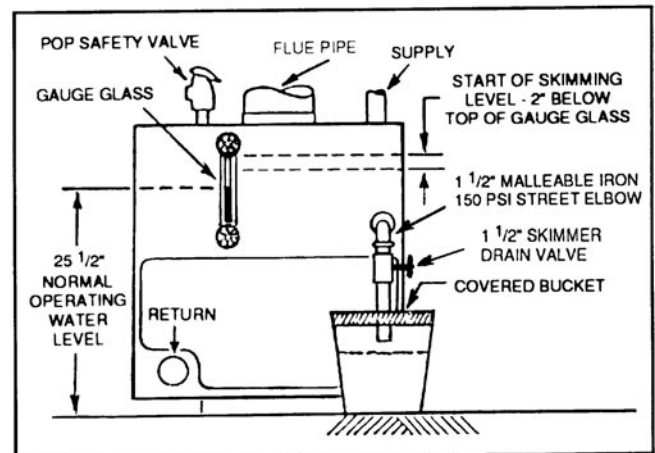

Figure 9.
- B. Turn off electrical power supply to boiler. Allow boiler to cool down and steam pressure to reduce to zero before removing skimmer tapping plug. Check for steam pressure by testing the pop safety valve. Drain boiler down one to two inches below skimmer tapping. The water might be hot. Remove skimmer plug slowly and carefully install a 150 psi malleable iron 1-1/2" NPT street elbow, a 1-1/2" NPT skimmer valve and length of pipe and place a bucket underneath the open end of the pipe. Cover bucket with a piece of cloth. (See figure 9)
- E. Repeat (D) above until all film is skimmed off and the water settles to a normal movement. Add make up fresh water to the boiler as described in (D) above, during the blow-off operation, to maintain the proper skimming water level in the vessel. Empty bucket frequently in order to see the difference in water cleanliness.
- F. When surging has stopped and water is clean, and no film can be seen floating in the bucket, shut off boiler, drain down to level of skimmer tapping, remove valve, plug skimmer tapping and refill the boiler to 24-1/2" water level. After 15 minute operation, readjust level to normal operating level of 25-1/2" from bottom of boiler (see figure 9). Check the pop safety valve for proper operation. Check the low water cut-off operation, see below.